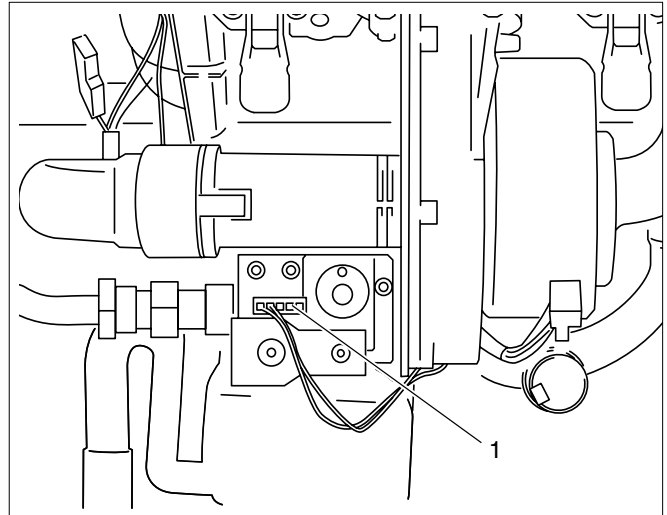

Fig. 71 Checking the cable connections to the gas control valve (e.g. HONEYWELL gas control valve)
- Check that the plug of the gas control valve has been installed correctly (see fig. 71, pos. 1).